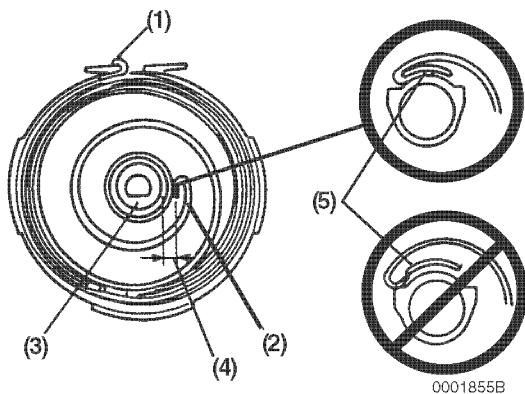

Figure 8-41
- Securely hook the spring end to the starter housing (**Figure 8-41, (1)**). Install the recoil spring by carefully winding it into the housing as shown (**Figure 8-41, (5)**).
- Adjust the shape of the inner end (**Figure 8-41, (2)**) of the spring so it is about 0.157 in (4 mm) (**Figure 8-41, (4)**) from the starter spindle (**Figure 8-41, (3)**).
3. Lightly lubricate the spindle with lithium-based multipurpose grease (**Figure 8-41, (3)**).
5. Place the reel (**Figure 8-42, (3)**) into the housing (**Figure 8-42, (1)**). Be sure the boss (**Figure 8-41, (5)**) on the reel (**Figure 8-41, (2)**) engages the spring inner hook.